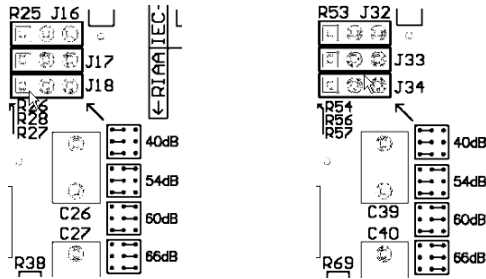

Figure 8: Left and right channel jumper banks for gain level settings
There are three (3) jumpers sockets for each channel that are used to adjust the gain level setting; J16, J17 and J18 for the left channel; J32, J33 and J34 for the right channel. Each of these jumper sockets have three pins allowing for 2 different possible positions. As well, there is a detailed diagram printed on the circuit board, located just below and to the right of each of these jumper banks, that shows the jumper positioning for the four available gain settings (see figure 8).